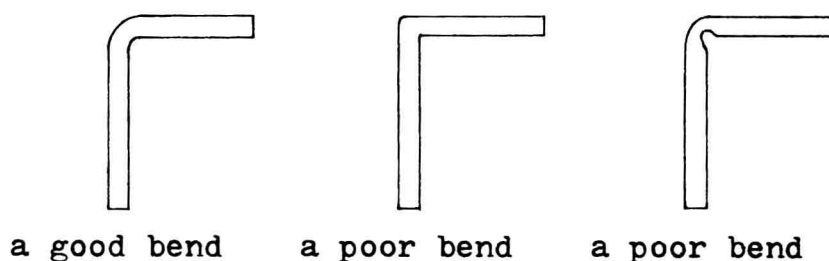

Figure 1-5
B. When the glass becomes soft and sags slightly in the center remove it from the flame and slowly bend it into a  $90^\circ$  angle as shown in Figure 1-5. Repeat with your second piece of tubing.